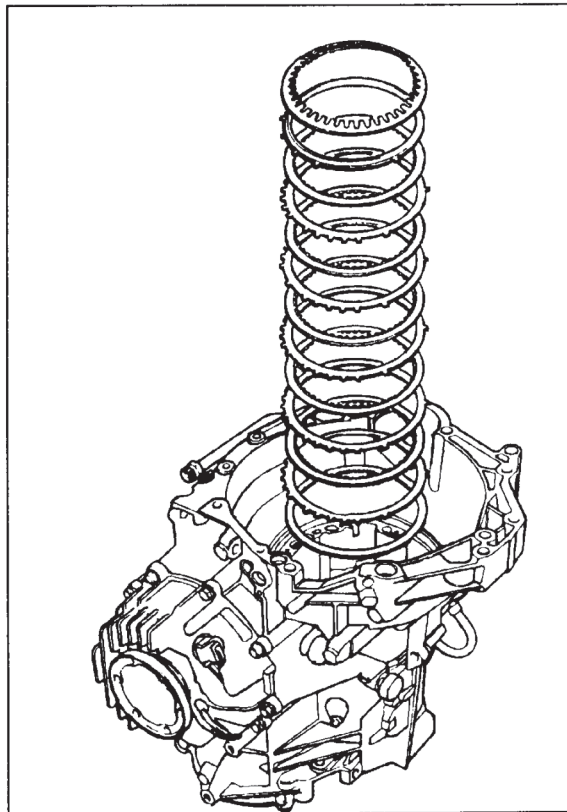

Figure 69
21. Note the direction of the piston return spring then remove it from the case. Note the direction of the pressure plate then remove it from the case. Remove the friction plates, steel plates, and the steel apply plate. and set them aside. (See figure 69).